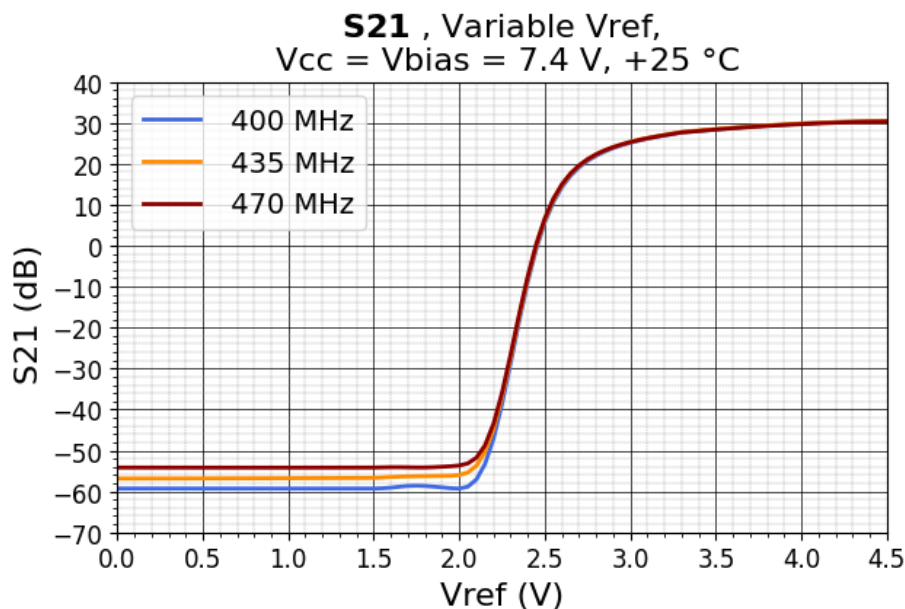

Figure 55 – V_{ref} Gain Control
V_{ref1} and V_{ref2} can also be used to ramp the CMX90A007 gain up or down to support burst signals and TDD systems. By varying V_{ref1} and 2 together between 2 V and 3.15 V (typ.) the gain can be adjusted by 80 dB (Figure 55).